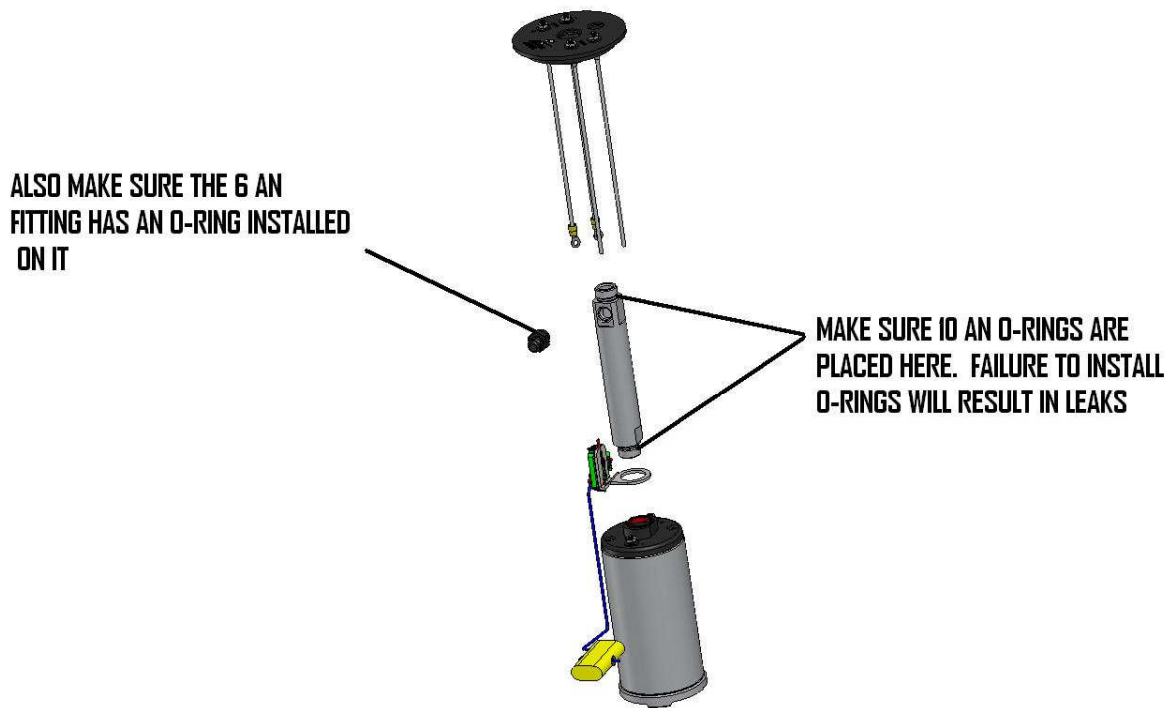

FIGURE 1-10
19. Now it's time to assemble your new Aeromotive Stealth fuel pump! Use the figure below as reference to assembly your fuel pump. **FIGURE 1-10**